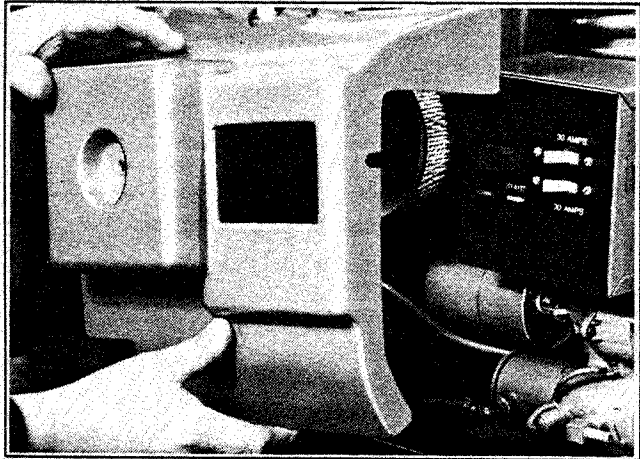

Figure 8-1. Removing Side Cover
1. Remove generator side-cover by removing wing nuts at air cleaner and controller box. Separate side-cover from generator. Figure 8-1.